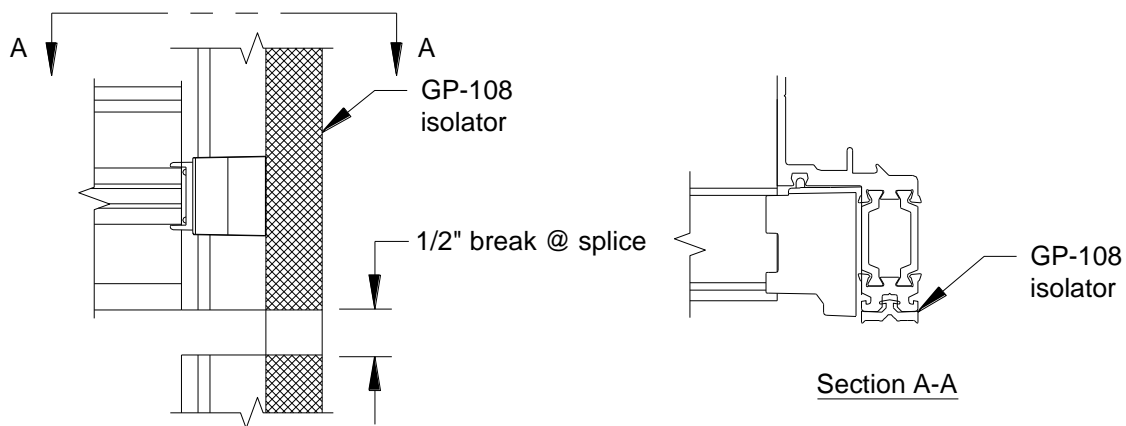

Figure 22: Isolator at Bottom of Each Vertical
- 10.3 Install GP-108 thermal isolator into groove on face of mullion tongues. Run through at vertical splice joints. **SEE FIGURE 22.**